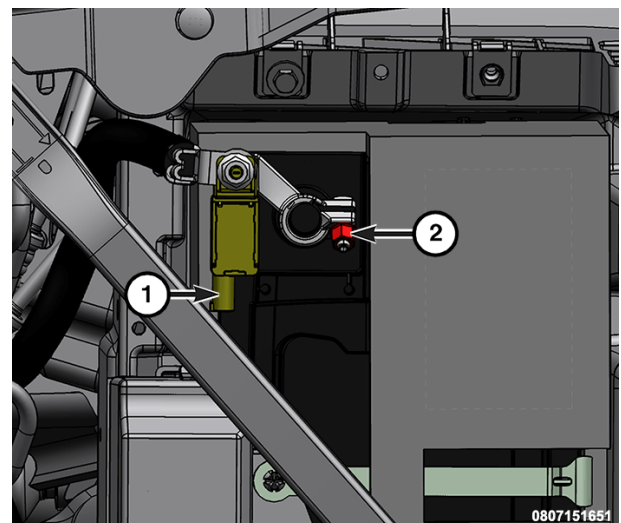

Figure 1 – IBS Connector
2. Disconnect the Intelligent Battery Sensor (IBS) wire harness connector (1) (Figure 1).
4. If the vehicle is equipped with an auxiliary battery, loosen the clamp (1) and remove the clamp from the battery and isolate (Figure 1).
6. Locate the access hole dimples (1) in the lower surface of the steering wheel hub rear trim cover near each of the two horizontal spokes.